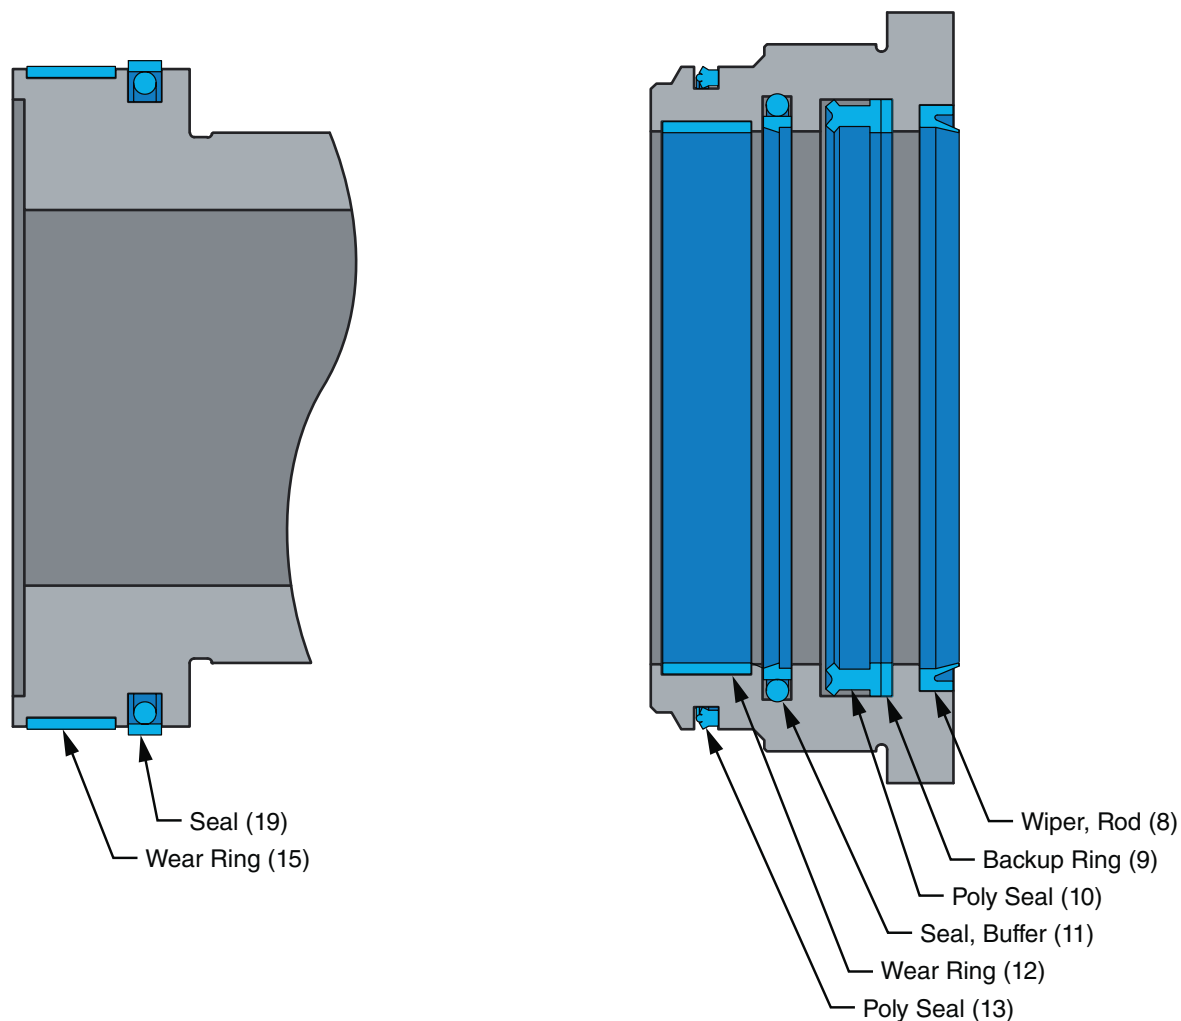
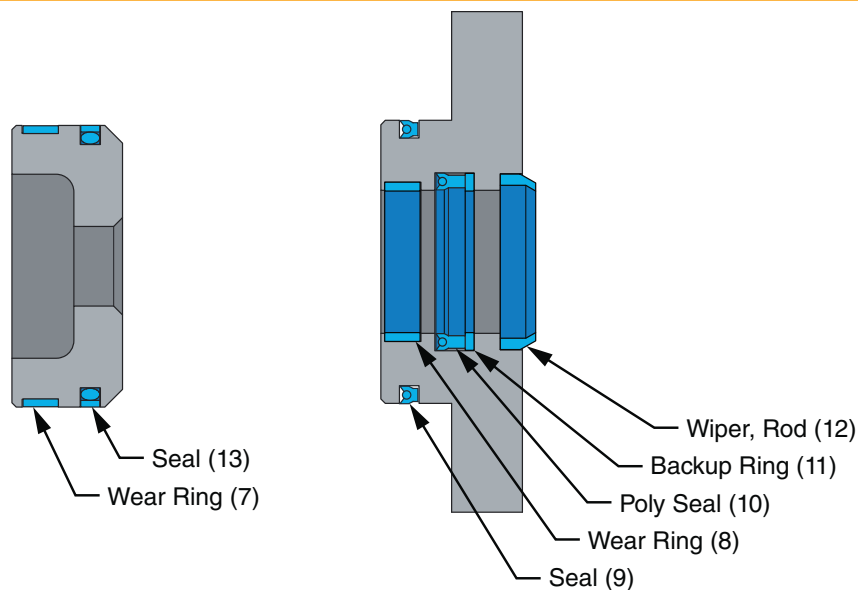

Figure 4 Suspension Cylinder Seals
Figure 5 Steering Cylinder Seals
3. Refer to Figure 4 and Figure 5 for seal orientations.